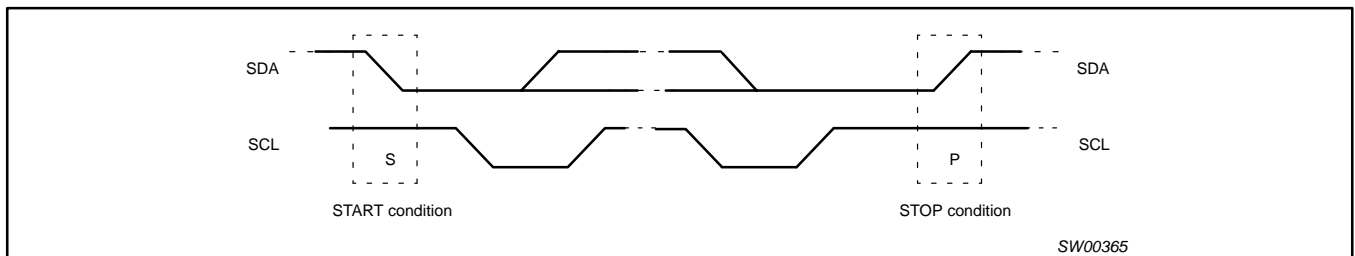

Figure 10. Definition of start and stop conditions
Both data and clock lines remain HIGH when the bus is not busy. A HIGH-to-LOW transition of the data line, while the clock is HIGH is defined as the start condition (S). A LOW-to-HIGH transition of the data line while the clock is HIGH is defined as the stop condition (P) (see Figure 10).